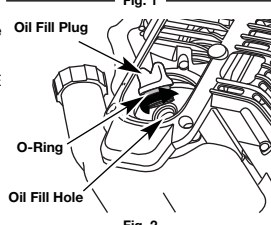

Fig. 2
3. Remove the oil fill plug from the crankcase (Fig. 2).